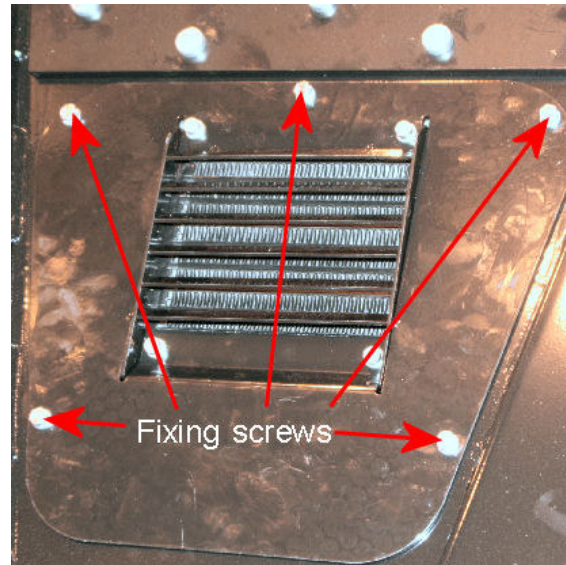

Fig 5-15 Fan fixing screws
- Remove the five screws securing the fan assembly to the frame (Fig 5-15) and extract the fan assembly from the frame.